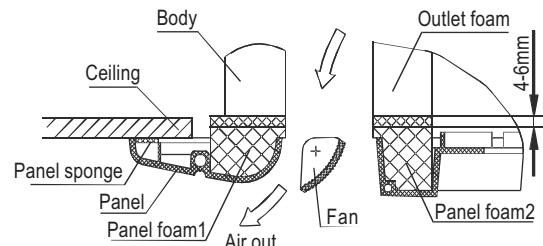

Fig.1-11
- Keep fastening the screws under the panel hooks, until the thickness of the sponge between the body and the panel's outlet has been reduced to about 4~6mm. The edge of the panel should contact with the ceiling well.(Refer to Fig.1-11)